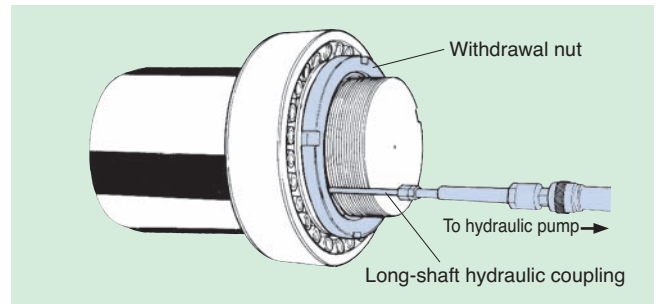

Fig. 19
- (3) Set the long-shaft hydraulic coupling to the lubrication port at the end of the hydraulic withdrawal sleeve (see **Fig. 19**).
- (4) Connect the hose from the hydraulic pump to the long-shaft hydraulic coupling (see **Fig. 19**).